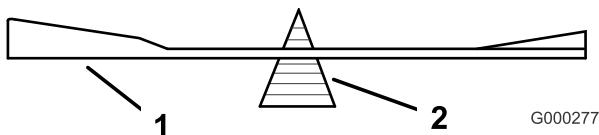
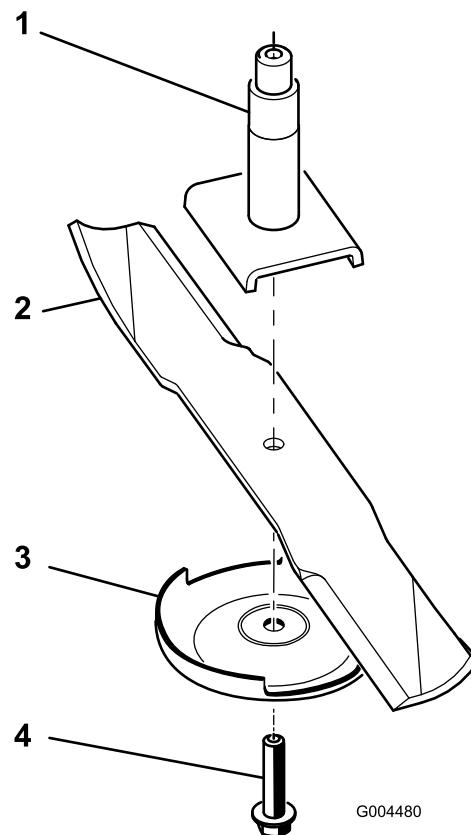

Figure 76
Figure 77
2. Remove the blade bolt, anti-scalp plate, and blade from the spindle shaft (Figure 77).
2. Check the balance of the blade by putting it on a blade balancer (Figure 76). If the blade stays in a horizontal position, the blade is balanced and can be used. If the blade is not balanced, file some metal off the end of the sail area only (Figure 77). Repeat this procedure until the blade is balanced.
2. Install the anti-scalp plate and blade bolt (Figure 77).
1. Install the blade onto the spindle shaft (Figure 77).